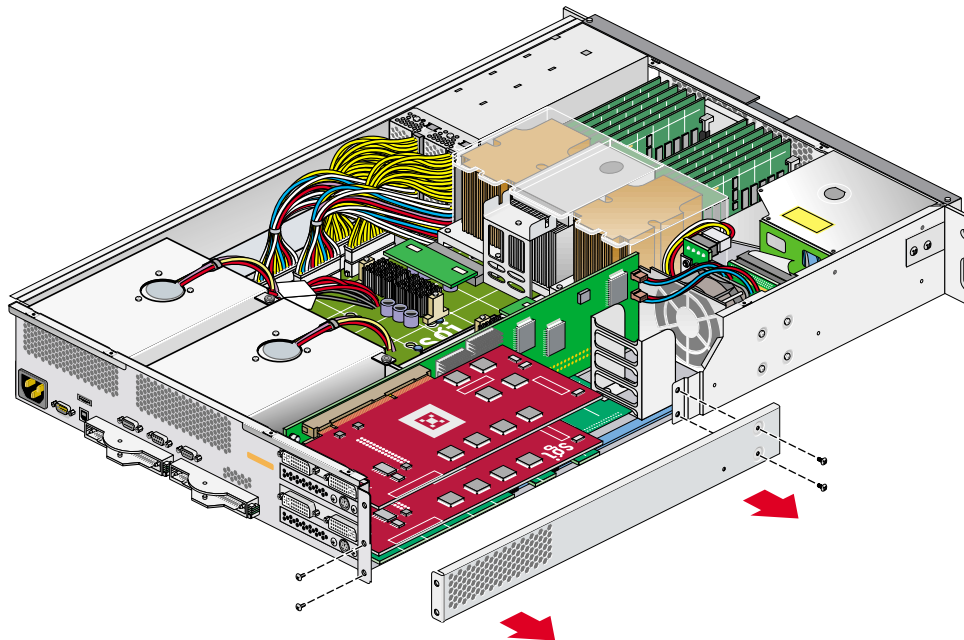

Figure 4-18 Removing the XG2N Graphics Card Bracket
9. Remove the lower PCI/PCI-X support bracket by unscrewing the four Phillips screws, as shown in Figure 4-18.